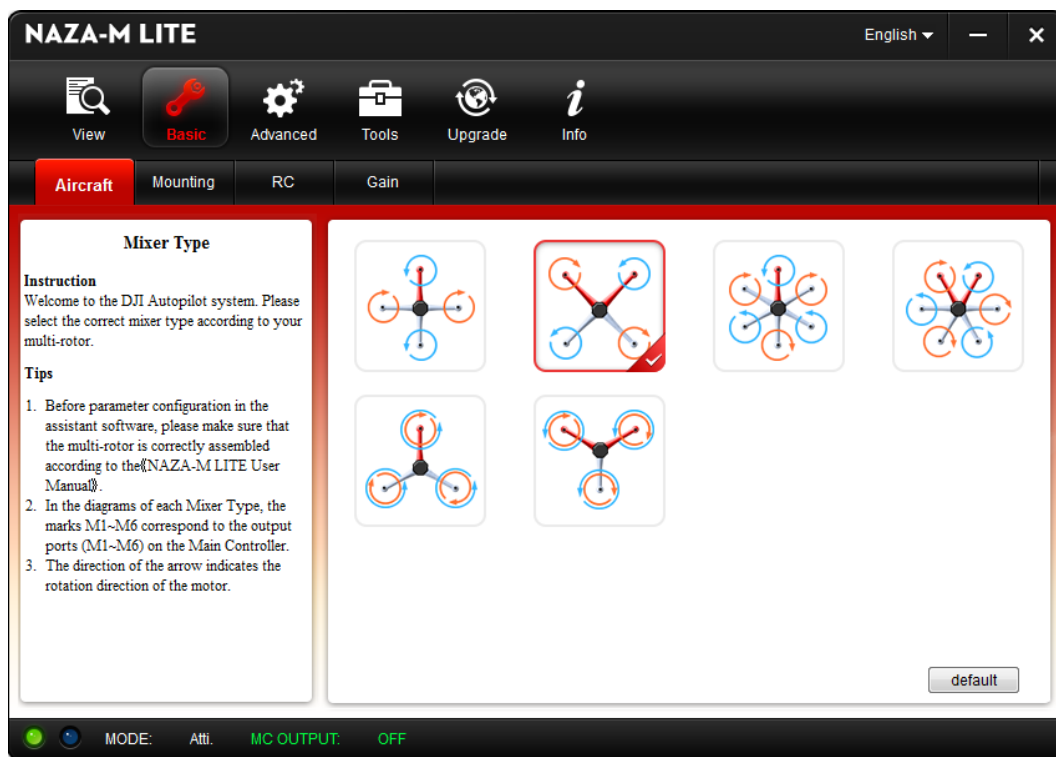

Figure 3: “Aircraft” type page of the NAZA-M LITE Software Assistant.
- Figure 3 indicates the highlighted quadcopter option used for the DJI F450 quadcopter.